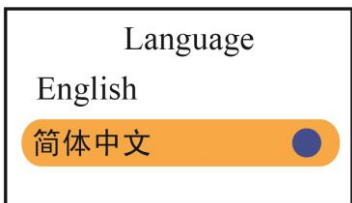

Figure 4.10C Language setup
- **Language:** This oximeter provides the display with two languages: English and Simplified Chinese, the factory default is "English", as shown in figure 4.10C.